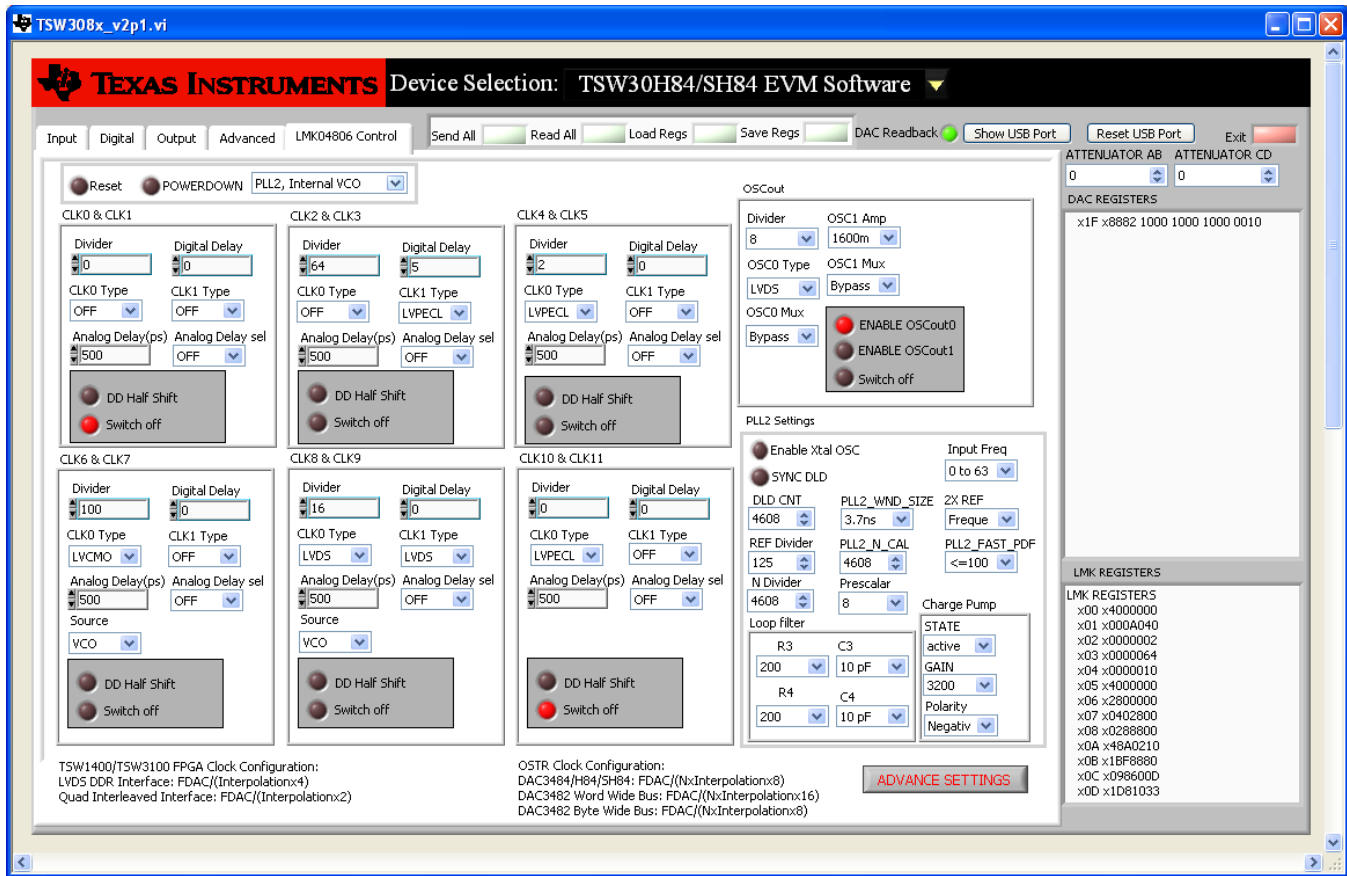

Figure 6. LMK04800 Tab Control Options
5. Click on *Send All* to write all of the values to the devices. If the LMK04808B is programmed properly in single PLL mode, the *LMK LOCK* LED (D7) near the device will be illuminated. The updated register configuration for the LMK04808B now appears as shown in Figure 6.